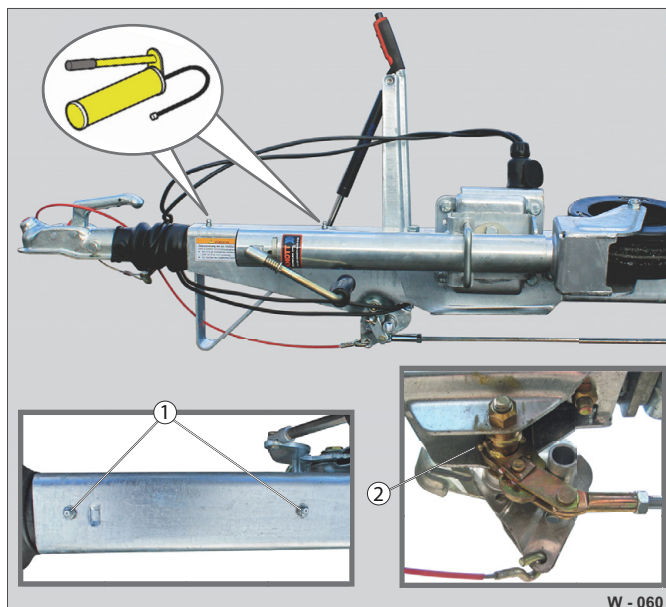

Fig. 49 Overrun device: Lubrication points
- Lubricate the overrun device at the top grease nipple (Fig. 49 /1) using a grease gun.
- Lubricate the deflection device at the grease nipple (Fig. 49 /2) and oil the bearing points.